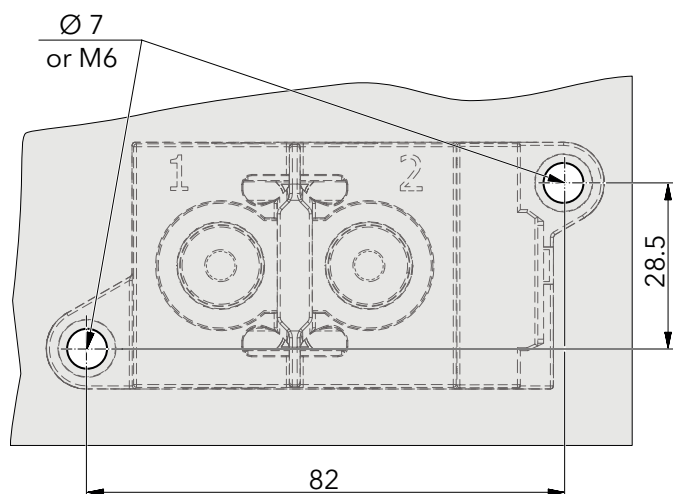
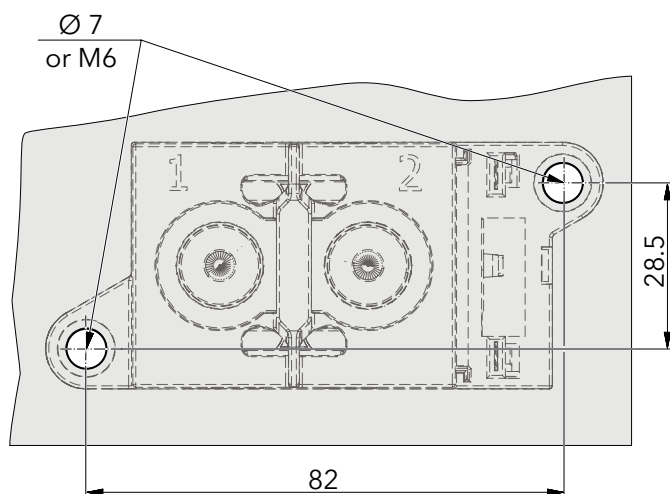

Fig. 4: C303-XXX-G0P-....: Dimensions and layout of mounting holes
Fig. 5: C303-XXX-G0F-....: Dimensions and layout of mounting holes
- A suitable mounting plate with 2 mounting holes must be provided according to the following dimensional drawings (**Fig. 4 and Fig. 5**).